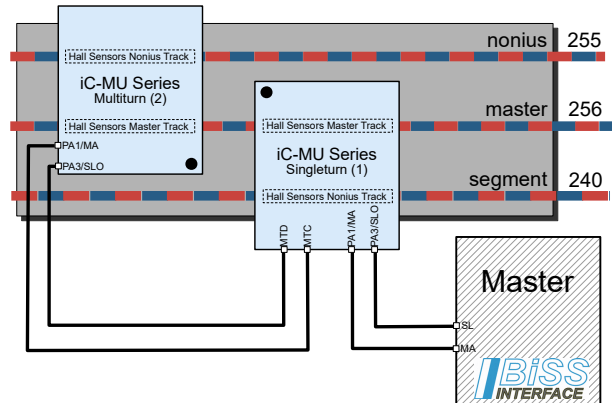

Figure 43: 3-track Nonius with 2 iC-MU Series
The construction of such a system is shown as an example in Figure 43 and the configuration in Table 65.
To facilitate the initial configuration of an iC-MU Series as a SSI multitrurn device the command SWITCH can be used (see page 61). The singleturn iC-MU Series (1) in Figure 43 has to enable the direct communication to the multitrurn sensor by setting GET\_MT to 1. The configuration of iC-MU Series (2) can take place using the BiSS protocol. After the configuration of the external multitrurn MODEA\_NEW and RPL\_NEW are used to set the target configuration of MODEA and RPL. After that the command SWITCH is executed. By reading STATUS1 it is possible to control if there was an error while executing the command. After the next startup or after the execution of the command SOFT\_RESET iC-MU Series starts with the interface configured with MODEA\_NEW and RPL\_NEW.